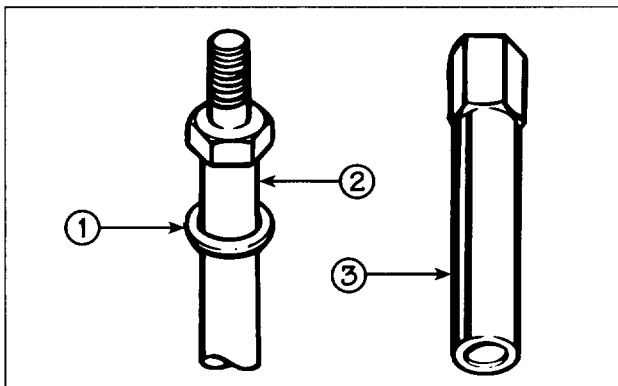

FIG. 8
Refer to Fig. 8. Install the Caterpillar washer (1) on the Jacobs cylinder head bolt stud (2). Coat the head bolt threads (2) and both faces at the washer (1) with thread lubricant (Caterpillar 6V4876 Molycote Paste Lubricant or equivalent) prior to assembly. Install the bolt and torque according to the following procedure.
Install the cylinder head bolt spacers (3, Fig. 8) on the cylinder head bolt studs (2) and torque to $95 \pm 15 \text{ N}\cdot\text{m}$ ($70 \pm 11 \text{ lb}\cdot\text{ft.}$).